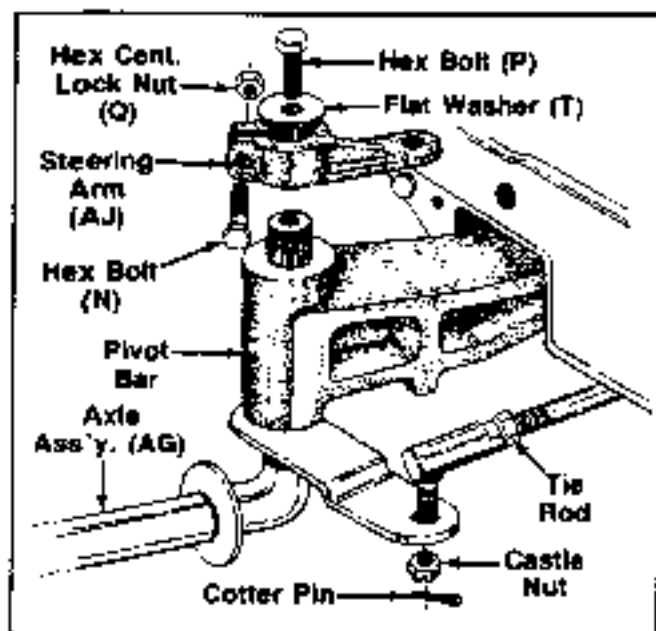

FIGURE 26.
21. Lower the tractor down towards the floor, but keep high enough to allow assembly of axle assembly (AG) and wheel.
22. Assemble the new left hand axle assembly (AG) through the pivot bar.
24. Assemble the tie rod to axle assembly with lock washer, hex castle nut and cotter pin, removed in disassembly section, step 14B. Tighten securely and install cotter pin. See figure 26
Figures 26 and 27 are shown without wheel for clarity.
28. Install hex bolt (N) through steering arm (AJ) and secure with hex center lock nut (Q). See figure 26.